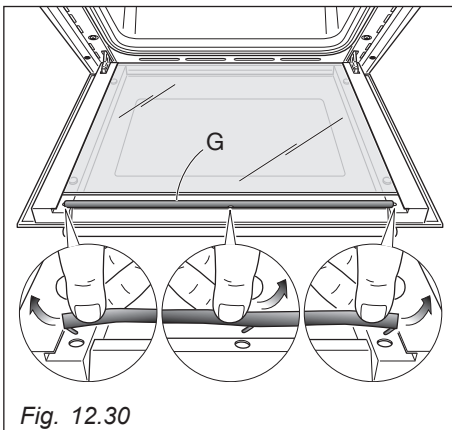

Fig. 12.30
- Remove the seal "G" by unhooking the no. 3 fixing hooks (fig. 12.30).